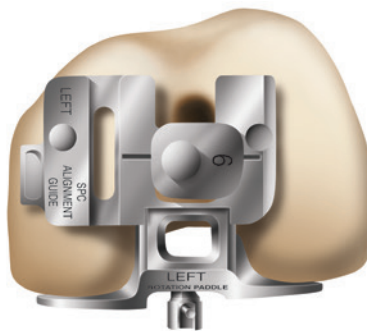

Figure 11
- 3 Insert the anterior lip of the paddles into the slot in the valgus alignment guide. Rotating the arm back centrally into the recess will lock the paddles onto the valgus alignment guide. Flex the knee and position the paddles under the posterior condyles (Figure 11). This will set rotation at 3°.